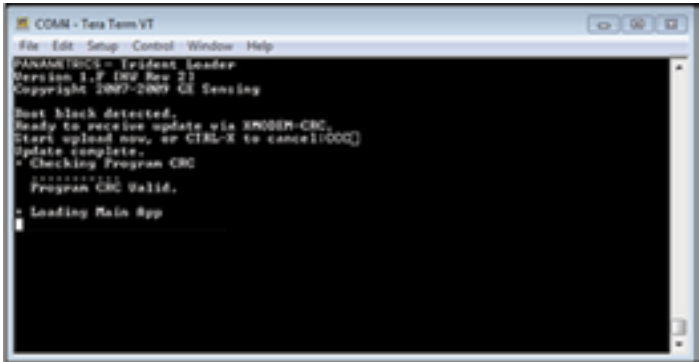

Figure 81: Update complete message in Tera Term
- 7. After the file transfer is complete, the *Tera Term* terminal window will appear as in *Figure 81 on page 81*, and the meter will start up.